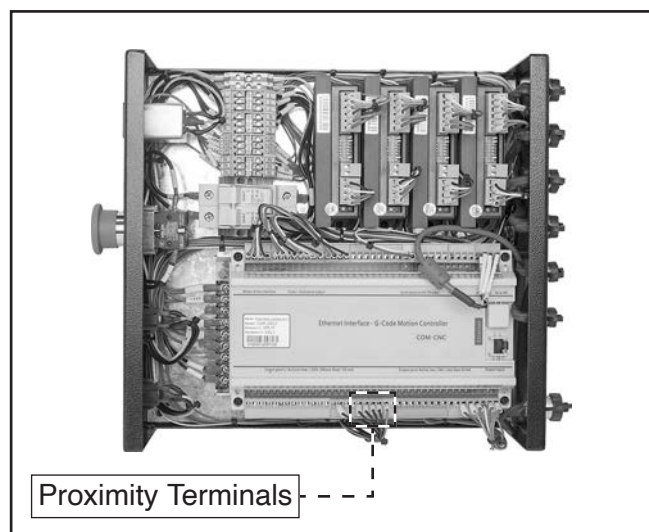

Figure 85. Location of motion controller proximity terminals.
8. Use a multimeter to check continuity between proximity switch/sensor and motion controller proximity terminals (see **Figure 85**).